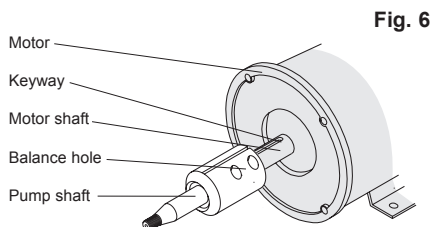

Fig. 6
8. See figure 6. Before remounting the pump shaft, remove any dirt and grease from the motor shaft and the muff's internal clamping surfaces. Mount the pump shaft loosely. Position the balance hole above the keyway.